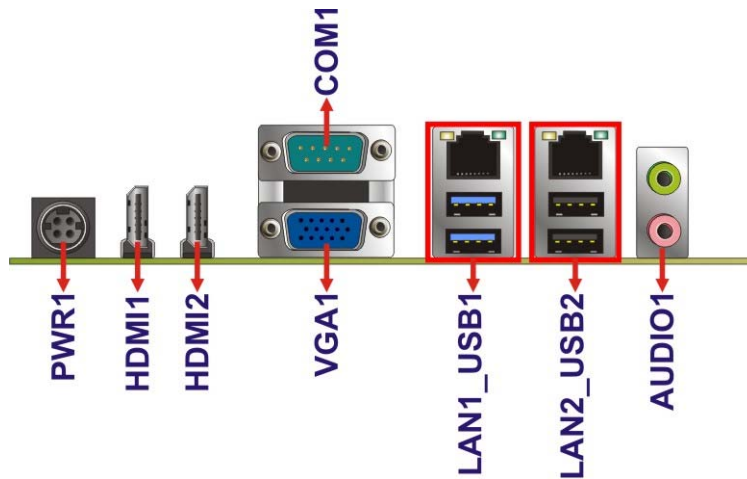

Figure 3-33: External Interface Connectors
Figure 3-33 shows the KINO-DQM871-i1 motherboard external interface connectors. The KINO-DQM871-i1 on-board external interface connectors are shown in **Figure 3-33**.
CN Location: See **Figure 3-33**
- CN Location:** See **Figure 3-33**